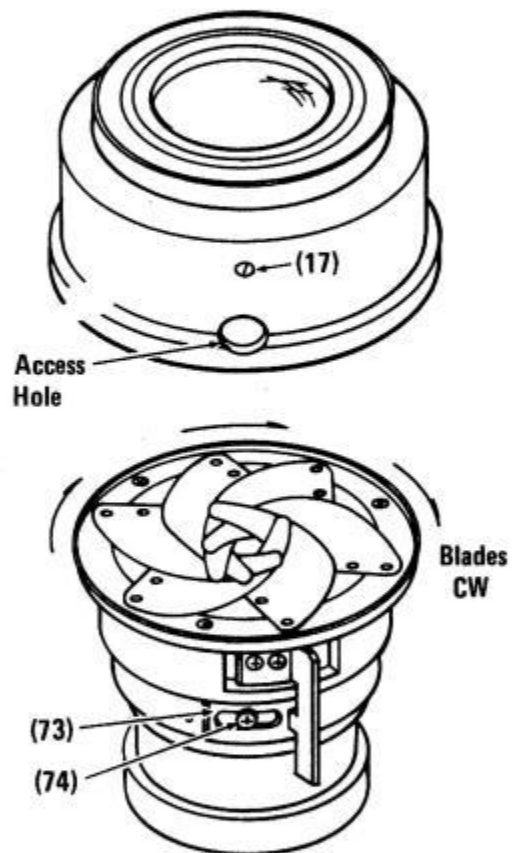
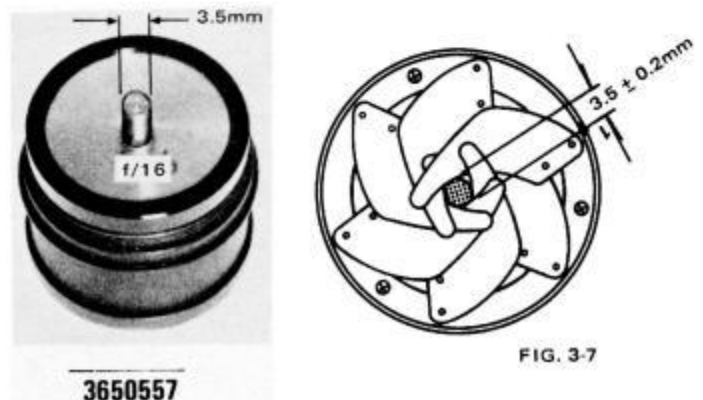

FIG. 3-6
FIG. 3-7
- 3.3 c) Remove three setscrews (28), which clamp rear diaphragm housing into front diaphragm housing.
- d) Screw fifth lens group, or Tool No. 3650557 into rear diaphragm housing. Gently work front diaphragm housing away from rear diaphragm housing. Fig. 3.6.
- a) Install diaphragm blades in a clockwise sequence. Fig. 3-6.
- c) Align blade ring limit stop access hole in front diaphragm housing with head of aperture limit plate stop screw (50); install front diaphragm housing over rear diaphragm housing, seating it firmly. Fig. 3-6.
- d) Holding parts firmly together, install the three setscrews (17) in front diaphragm housing. Thread the setscrews into the housing until they just make contact with the rear diaphragm housing.
- g) Thread Tool No. 3650557 into rear diaphragm housing; hold diaphragm lever against limit stop and measure the aperture size. At f/16, the diaphragm blades should just touch the pin of the tool. (Diameter of the opening is $3.5 \pm 0.2\text{mm}$.) Fig. 3.7. Adjust the aperture size by shifting the position of limit stop plate (49). Fig. 3-6.
- a) Install diaphragm housing assembly in the assembled lens; ensure that the housing is free to rotate by loosening screws (49). Fig. 3-7.